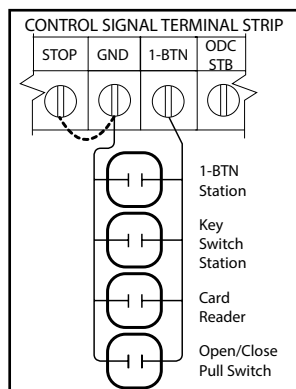

Figure 4
- 2) For single button accessory controls, make connections as shown in Fig. 4.